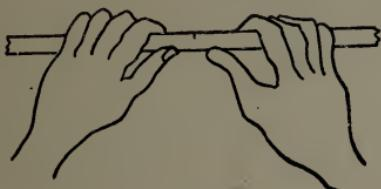

FIG. 7.
7. The Use of Glass Tubing.—(a) *To Cut Glass Tubing.*—With a triangular file make a scratch upon the glass at the desired point, then grasp the tube with both hands, and bring the thumb nails together directly opposite the file mark (Fig. 7). Press outward with the thumbs and pull gently with both hands. If the tube does not break readily make a deeper cut with the file, and extend it further around the tube. In the case of large tubing it is necessary to make a file mark entirely around the tube.